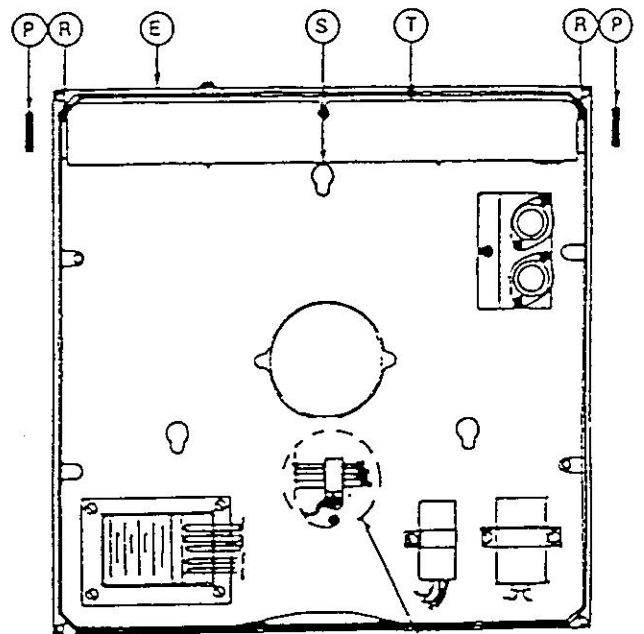

FIGURE 2
2. Install housing (E) to the ceiling using the (3) holes (S) provided on top of housing. (Hardware by others). See Figure 2.
2. Remove (2) pipe plugs (P) and wiring cover (T). See Figure 2.
3. Install housing (E) to the ceiling using the (3) holes (S) provided on top of housing. (Hardware by others). See Figure 2.
4. Engage the supply conduit to the threaded hubs (R). See Figure 2.
6. Replace the wiring cover (T). See Figure 2.